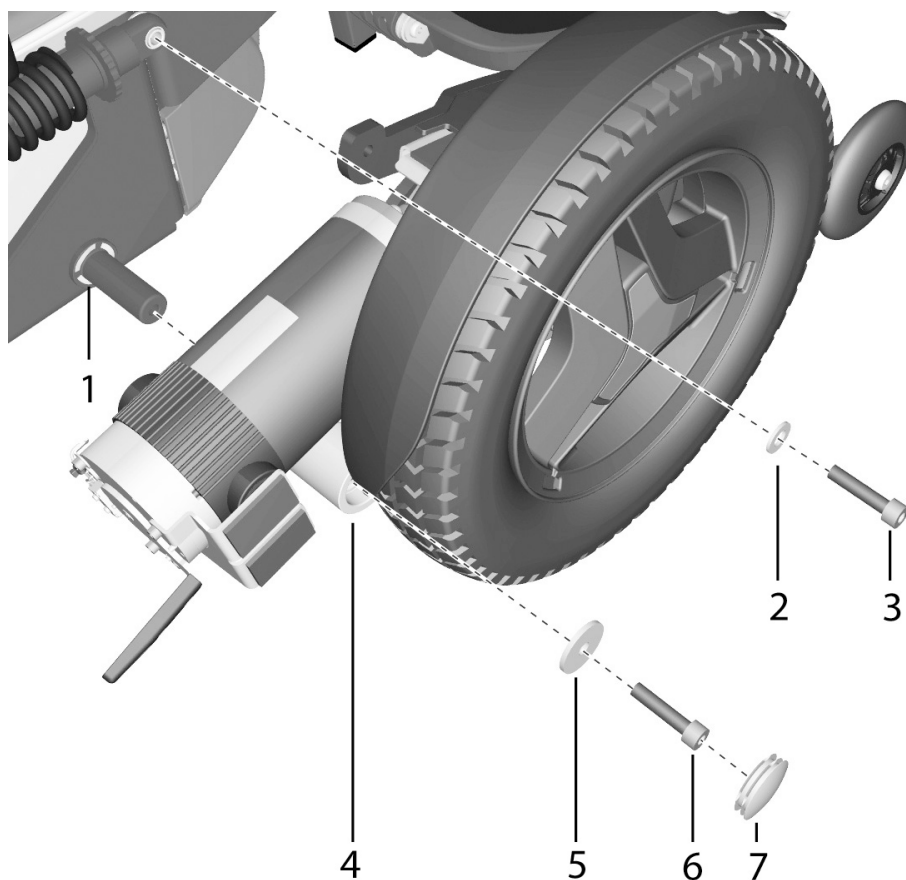

Figure 49. Fitting/removing the Front link arm
7. Remove the cover (7) from the link arm. See fig. 49.
8. Remove the shock absorber from the link arm. It is fitted with one screw (3) and washer (2). See fig. 49.
9. Remove the link arm (4), it's fitted with the screw (6) and the washer (5). See fig. 49.